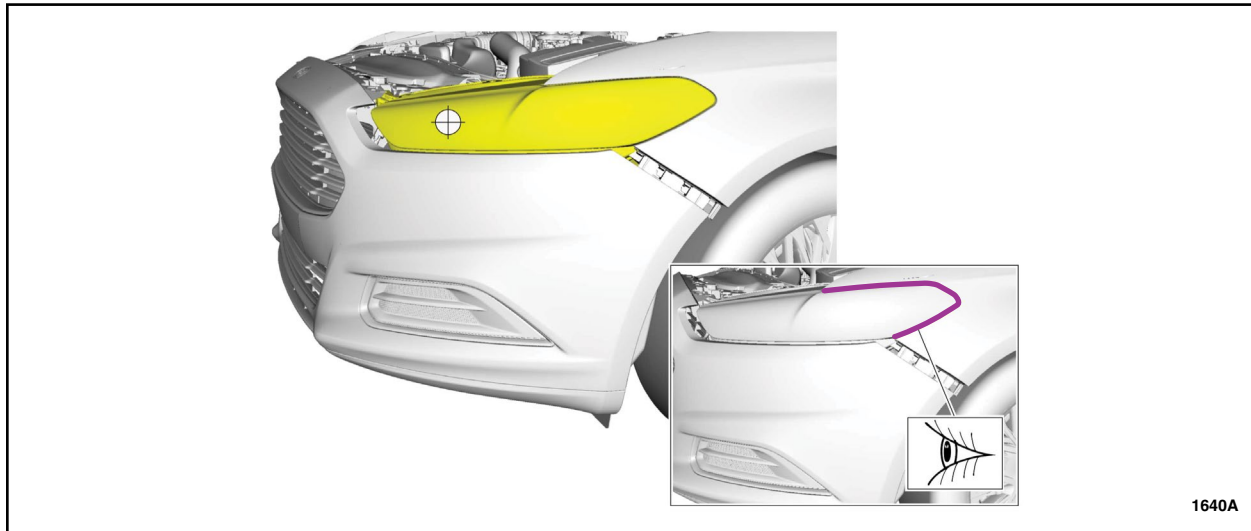

FIGURE 10
12. Align the headlamp assemblies to the fender openings. See Figure 10.